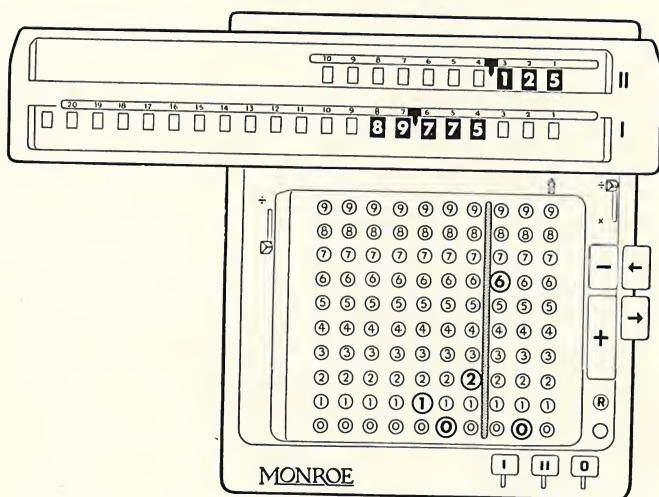

Figure 17
Step 4—Upper dials show .125, rate of discount; lower dials 89.775000 or \$89.78, net of invoice; and keyboard 102.60, gross invoice. See Figure 17.